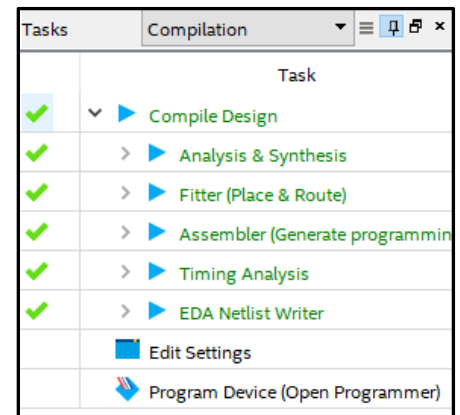

Figure 5: Completed Full Compilation
1. To compile your design, click on the blue isosceles triangle button , or double click on “Compile Design” in the task utility window, or select “Processing” and then “Start Compilation”. You will be asked to save the bdf file if it has unsaved changes. Select “Yes.” After the file is compiled (which depending on your computer, may take 30 seconds to two minutes), your task utility window should be similar to the image in Figure 5.